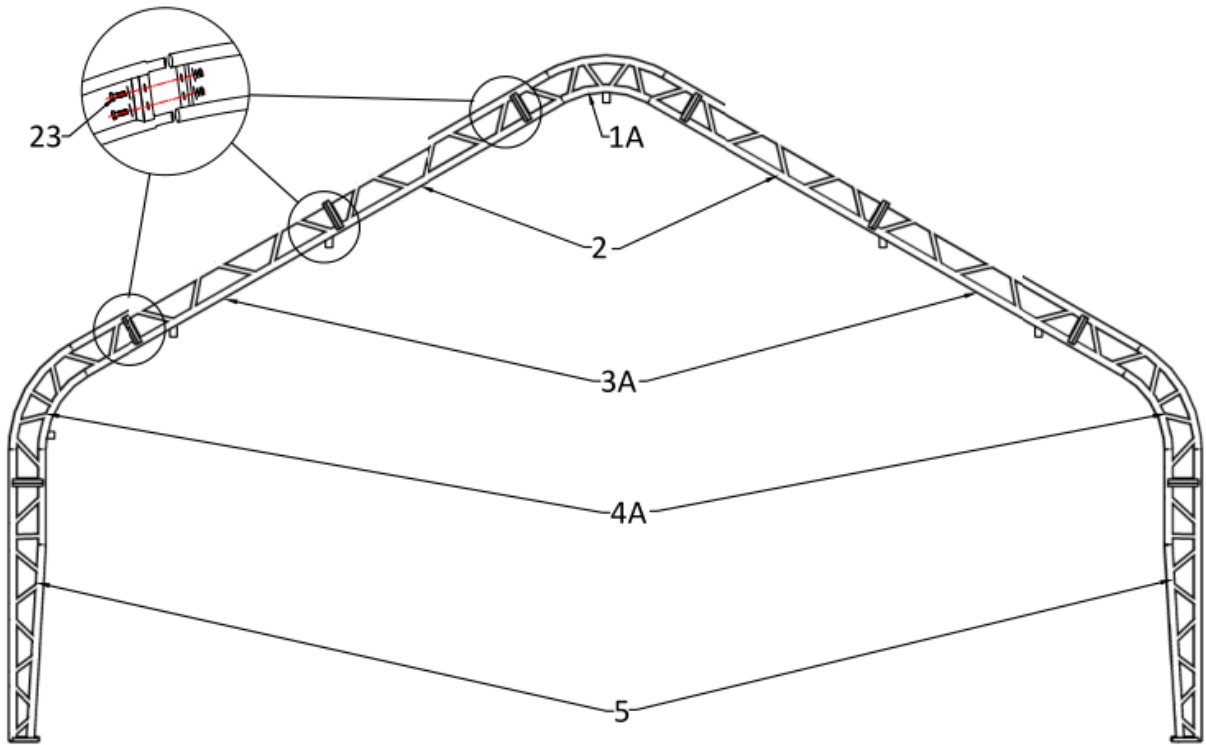

Figure 2
3.1 As Figure 2&3 shown to find one Roof Bent Tube, Middle Bent Tubes, Lower Bent Tubes and assemble every group arch with Bolt.